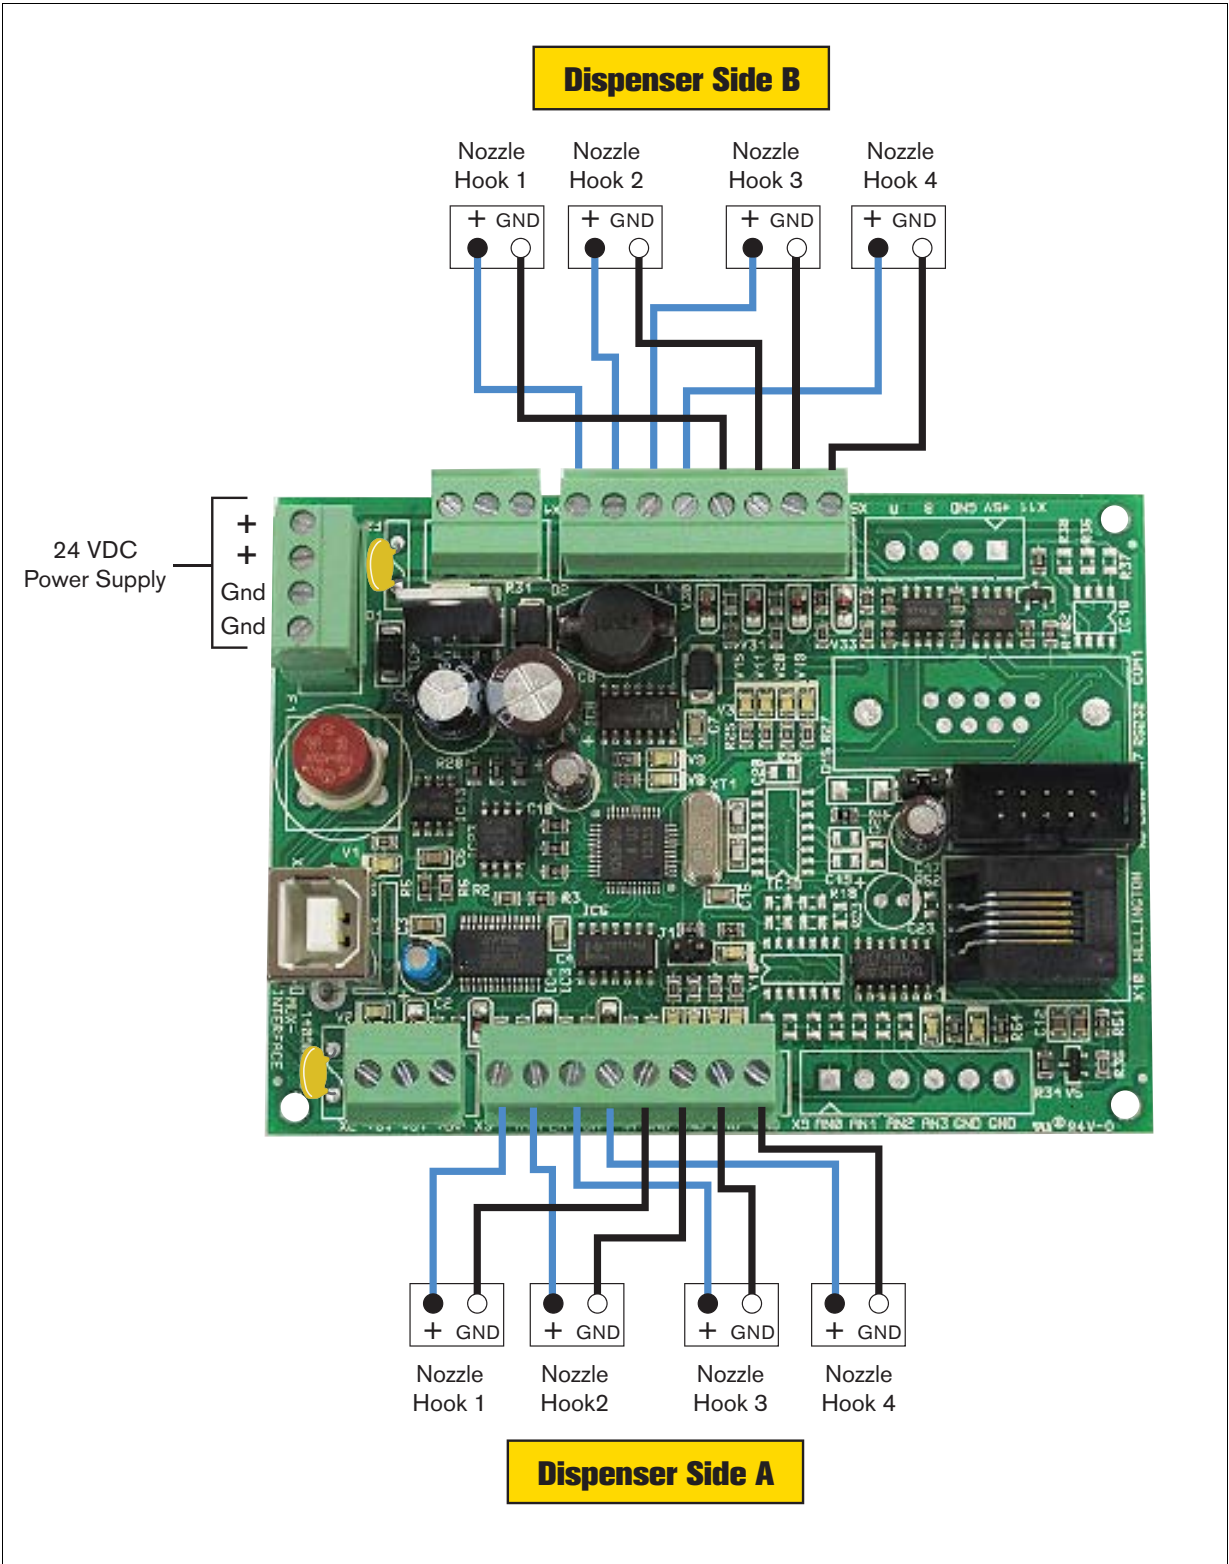

Figure 13. VaporTEK Interface - Low Voltage Nozzle Hook Signal Connections
- c. Connect the available nozzle hook signal inputs to the VaporTEK Interface using 24AWG, 8 conductor signal cables included in the Kit. (Note: 2 conductors used per hook signal input, see wiring diagram in Figure 13.)